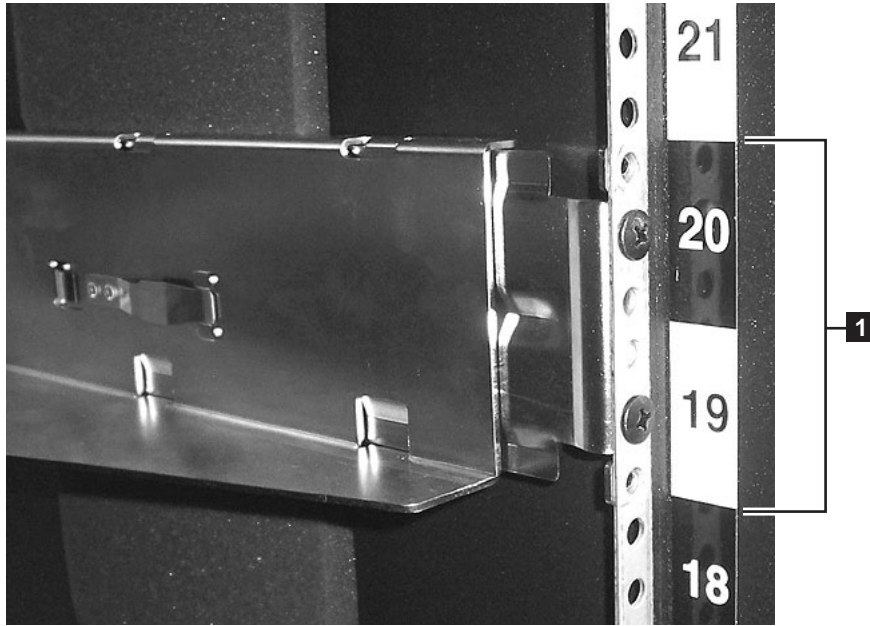

Figure 2. Installing the rails
5. Using the screws for your rack type, secure the back and front of the rails to the rack as shown in Figure 2 on page 6.